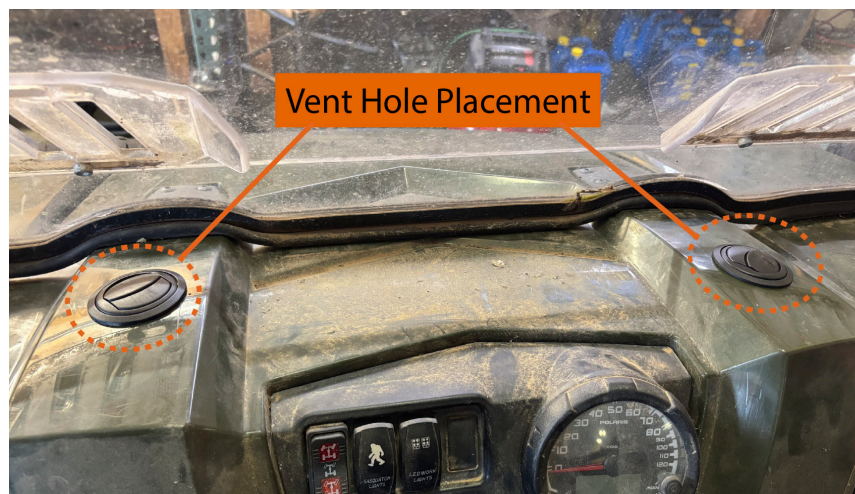

FIGURE 3
7. Insert a vent into the hole. FIGURE 3